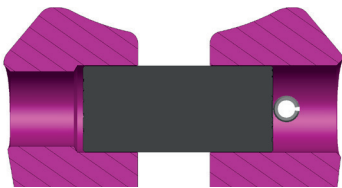

Fig. 2: G bolt assembly through locking pin and staged drill hole (left). One G bolt of the next smaller size will fall out.
- The G-bolt must be assembled through the dowel pin and staged drill holes as inextricable in the component (Fig. 2).